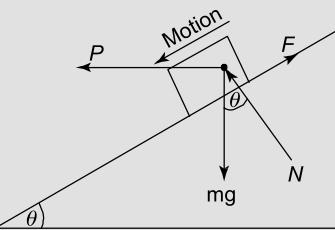

Figure 16.10
Problem 10. If the mass of Problem 9 were subjected to a horizontal force P , acting down the plane, as shown in Figure 16.10, determine the value of P which will just cause motion down the plane.
10. Determine P for Problem 6, if it were acting in the direction shown in Figure 16.10. $[P = 15.43 \text{ N}]$